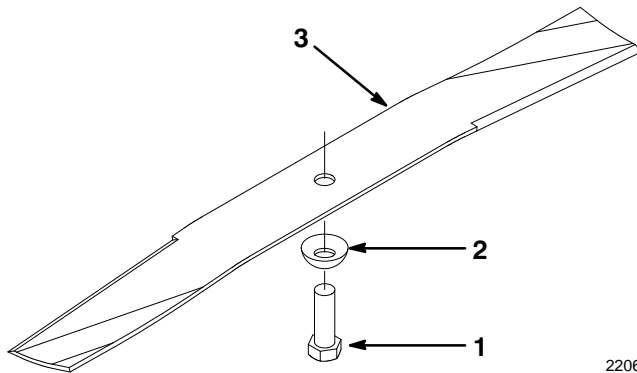

Figure 22
4. **REMOVING BLADE**—Grasp end of blade using a rag or thickly padded glove. Remove blade bolt, washer and blade (Fig. 22).
curved and must be reinstalled with curve side down as shown in (Fig. 22). Tighten blade bolt to 45-50 ft-lb (61-68 N·m).